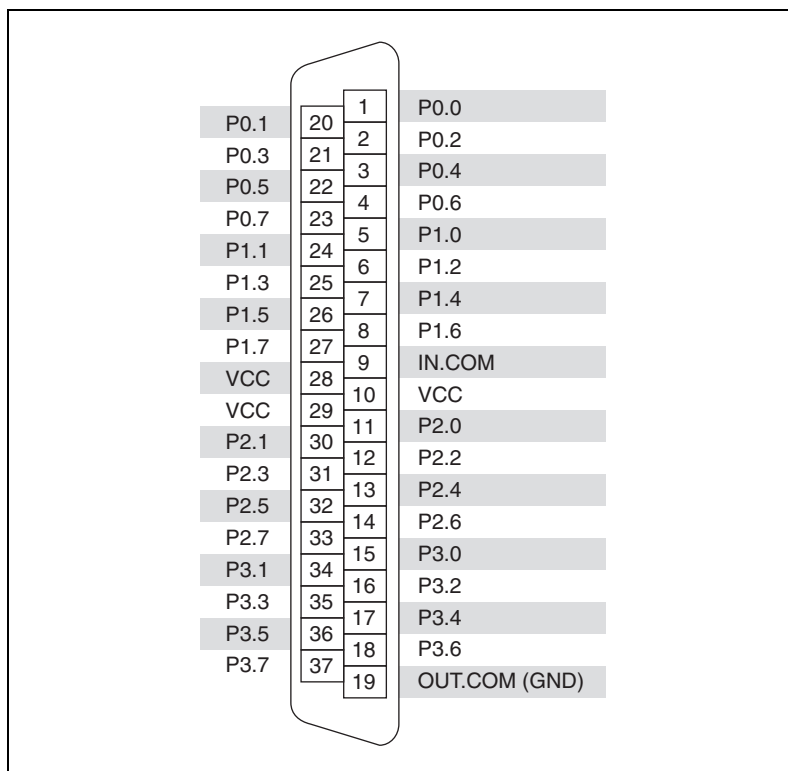

Figure 3-14. NI 6518 Pin Assignments
Figure 3-14 shows the pin assignments for the SH37F-37M cable when connecting to the NI 6518 device. The naming convention for each pin is $PX.Y$, where X is the port (P) number, and Y is the line number or name.